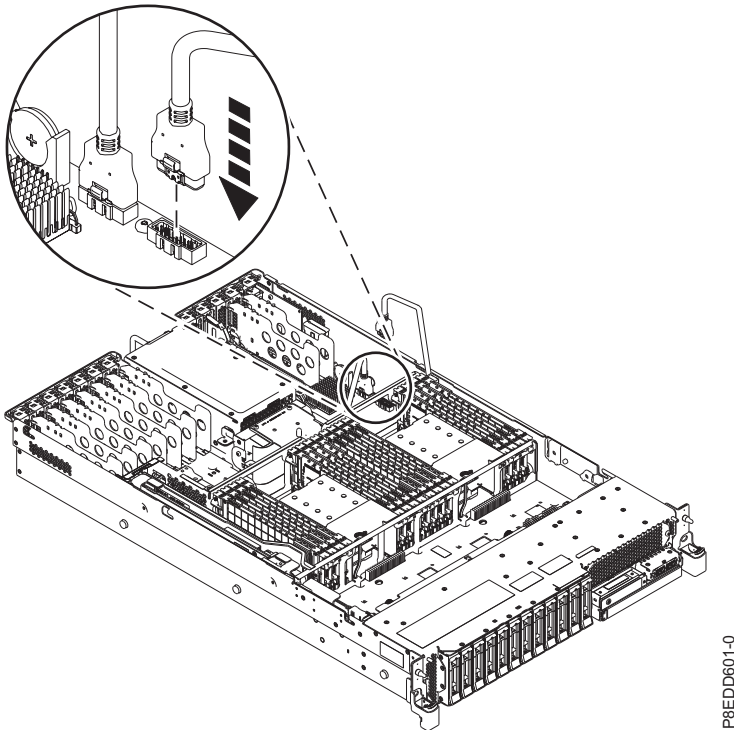

Figure 32. Reconnecting the front USB cable
26. Reroute the front USB cable and reconnect it to the backplane, as shown in Figure 32.